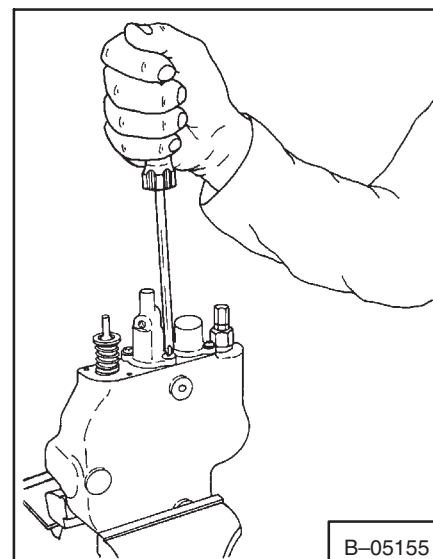

Fig. 2-10 Removing Screw
3. Remove the detent cap fastening screws (Fig. 2-10) and remove the caps (Fig. 2-11).